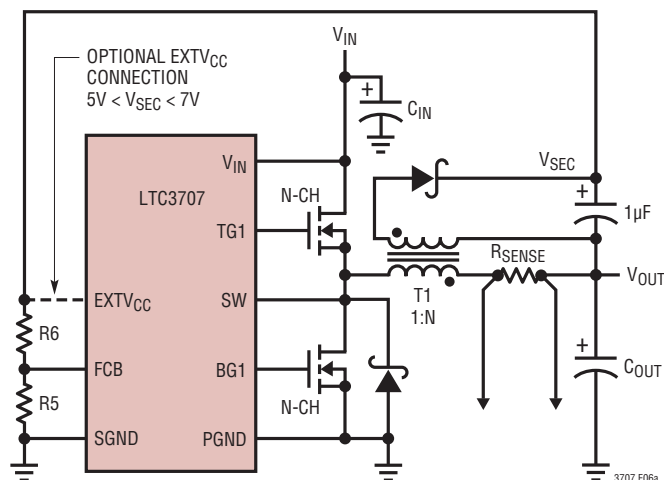
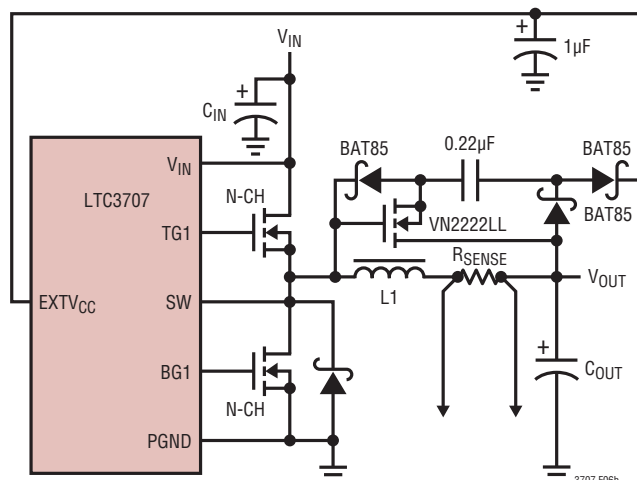

Figure 6a. Secondary Output Loop & EXTVCC Connection
Figure 6b. Capacitive Charge Pump for EXTVCC
4. EXTVCC Connected to an Output-Derived Boost Network. For 3.3V and other low voltage regulators, efficiency gains can still be realized by connecting EXTVCC to an output-derived voltage that has been boosted to greater than 4.7V. This can be done with either the inductive boost winding as shown in Figure 6a or the capacitive charge pump shown in Figure 6b. The charge pump has the advantage of simple magnetics.
The secondary output voltage  $V_{SEC}$  is normally set as shown in Figure 6a by the turns ratio  $N$  of the transformer: